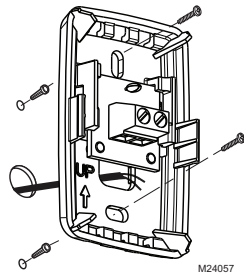

Fig. 4. Mount wallplate to wall.
4. Place wallplate over anchors, insert and tighten mounting screws. See Fig. 4.